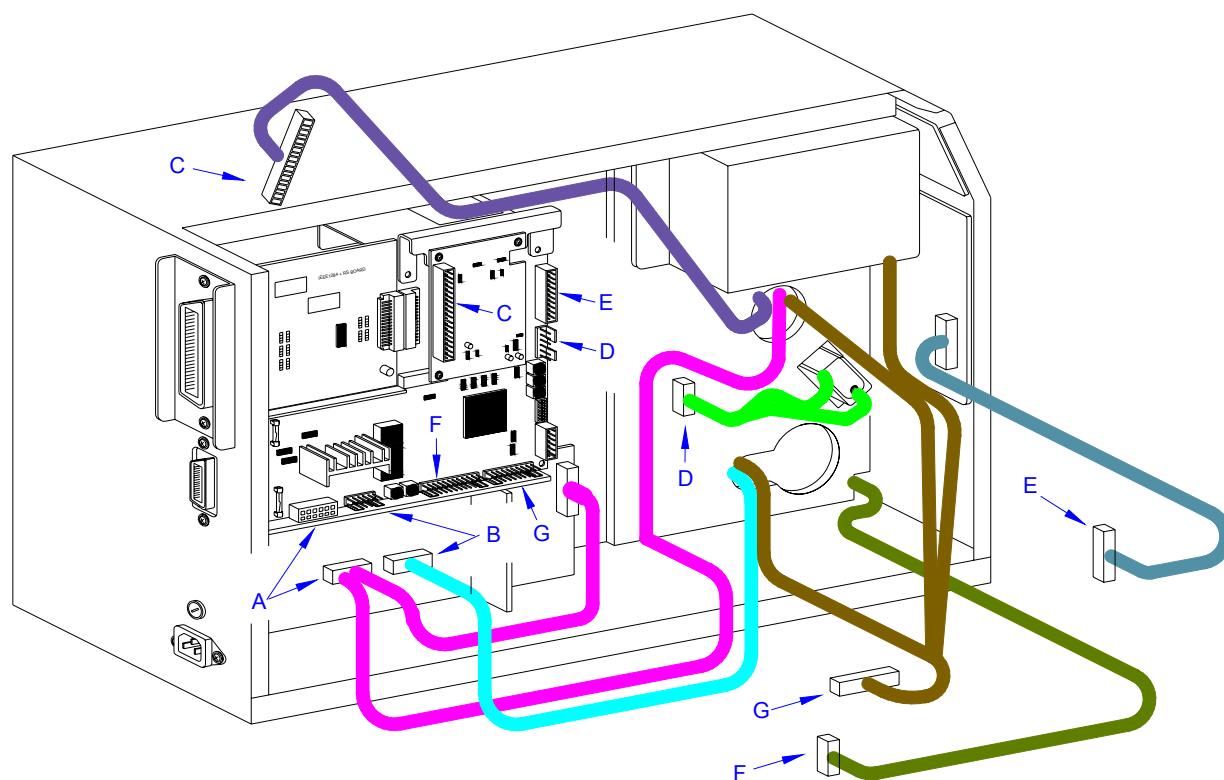

Figure 7-2, Circuit Board Replacement
- 8 Detach optional memory card (6) from its connection with main circuit board (1).
- 9 Remove two exterior screws (7) securing main circuit board (1) to the housing.
- 10 Remove three interior screws (8) securing main circuit board (1) to the printer frame.
- 11 Withdraw main circuit board (1) from within the printer.
- 12 Prepare to replace main circuit board (1).
- 13 Install main circuit board (1) into mounting position and secure to the printer frame using three screws (8).
- 14 Secure the exterior of main circuit board (1) using two screws (7).
- 15 Connect optional memory card (6) to main circuit board (1) as applicable.
- 16 Connect and attach daughter board (2) to main circuit board (1) using three screws (5).
- 17 Connect interface board (4) to main circuit board (1) and secure to housing using two screws (3).
- 18 Reconnect all wiring harnesses (Figure 7-2).